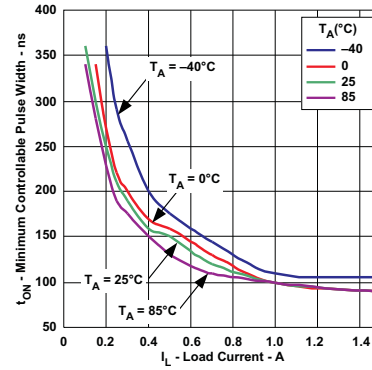

Figure 14. Minimum Controllable Pulse Width vs Load Current
(3) See Figure 14 for  $I_{SWx}$  peak current  $< 1\text{ A}$ .